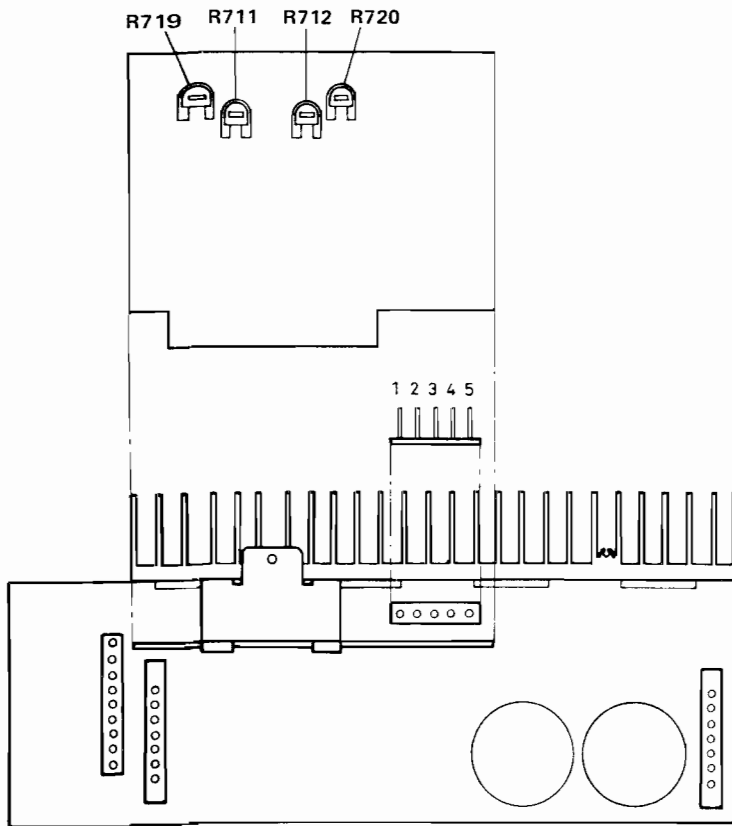

Fig. 22
3. Adjust R711 (R712). Meter should read 0 (± 0.05) volt. Refer to Fig. 22.
5. Adjust pot R719 (R720) for DC VTVM reading of 10mV. Refer to Fig. 22.